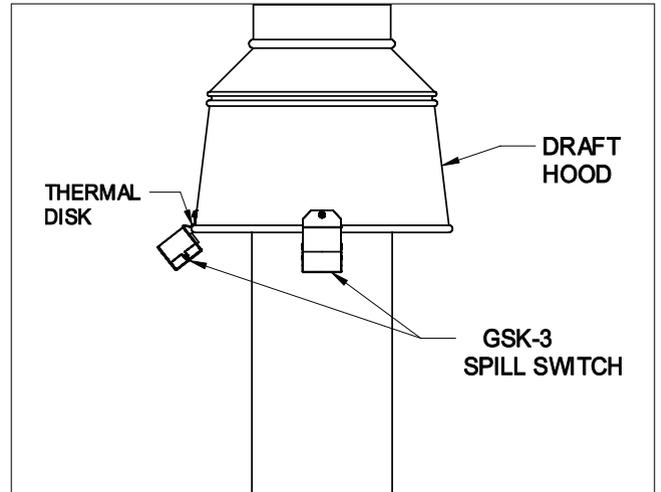

Figure 7
1. Mount the GSK-3 on the lower edge of the draft hood with the exposed thermal disk directed into the draft hood (See Figure 7).